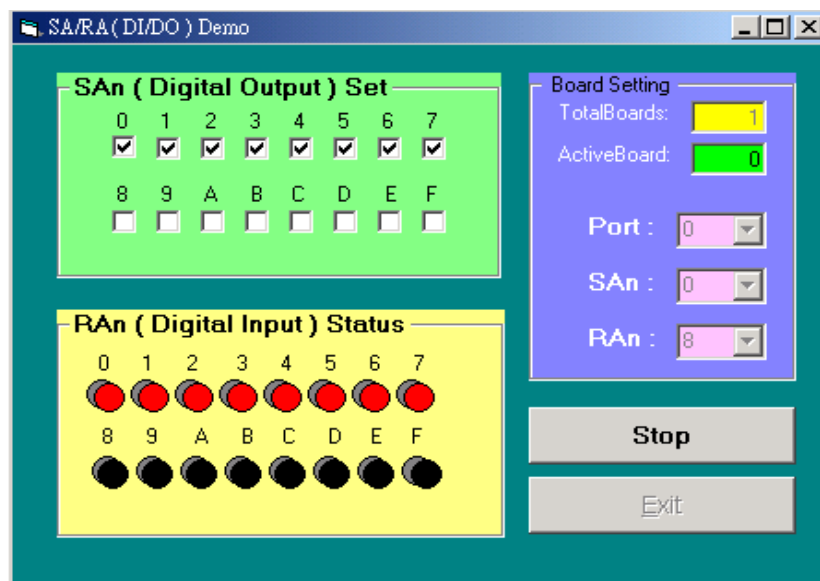

Figure 7.2
- Step 4 : On the screen of Fig7.2, the RAn (Digital Input) status will display the 16-bit data sent from the remote SA8 (FR-2053) to the host RA8 (FRB-200U/200/100).